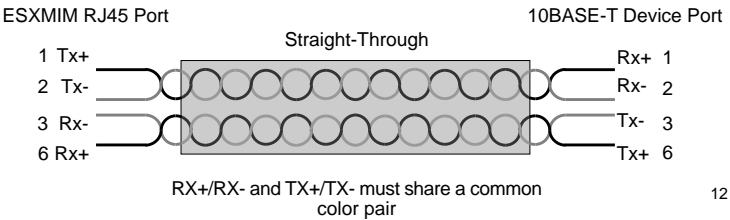

Figure 3-8 Cable Pinouts - RJ45 Port
- b. Verify that the RJ45 connectors on the 10BASE-T segment have the proper pinouts (Figure 3-8).